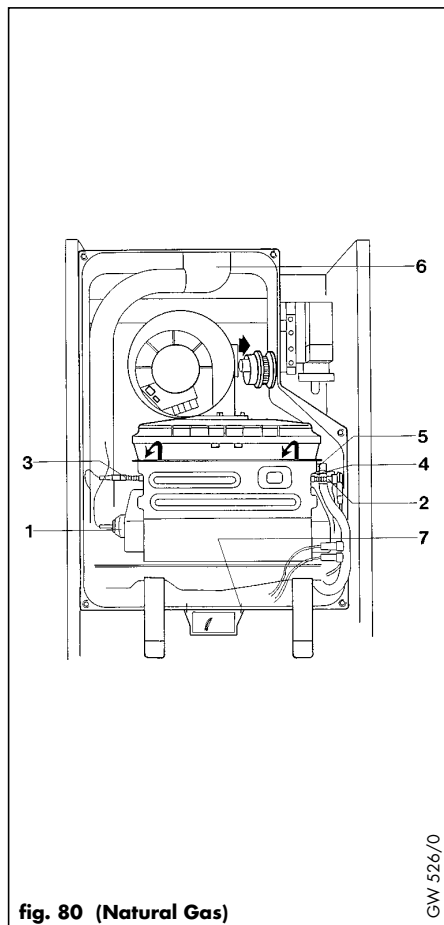

fig. 80 (Natural Gas)
- Undo screws (7, fig. 80) and remove transformer by pulling it down and to the right.